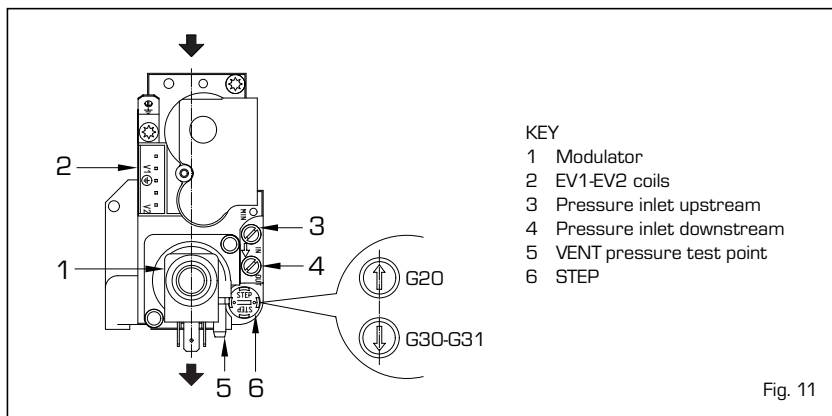

Fig. 11
For maximum and minimum pressure calibration follow the procedure listed below (fig. 11/a):
- Connect the column or a manometer to the intake downstream of the gas valve (4 fig. 11).